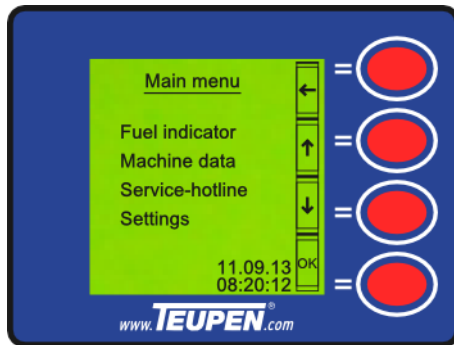

Fig. 61: Main menu overview
Press the [function key] (Fig. 61/4) in normal mode to call up the 'Main menu'.
1. Select a submenu with the [function keys] (Fig. 61/2 and 3).
2. Use the [function key] (Fig. 61/4) to jump to the selected submenu.
3. Use the [function key] (Fig. 61/1) to jump back to normal mode.